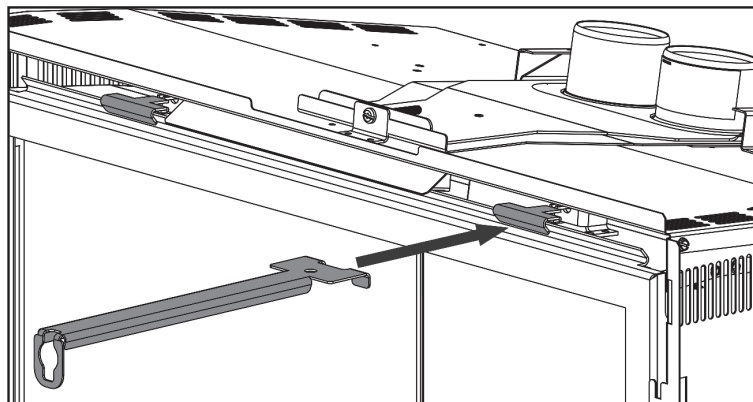

Fig. 3-3
2. Using the tool provided, pull the two top latches forward and upwards from the slot in the door (**Fig. 3-3**). Ensure to keep one hand on the door at all times to prevent it from falling on the floor.